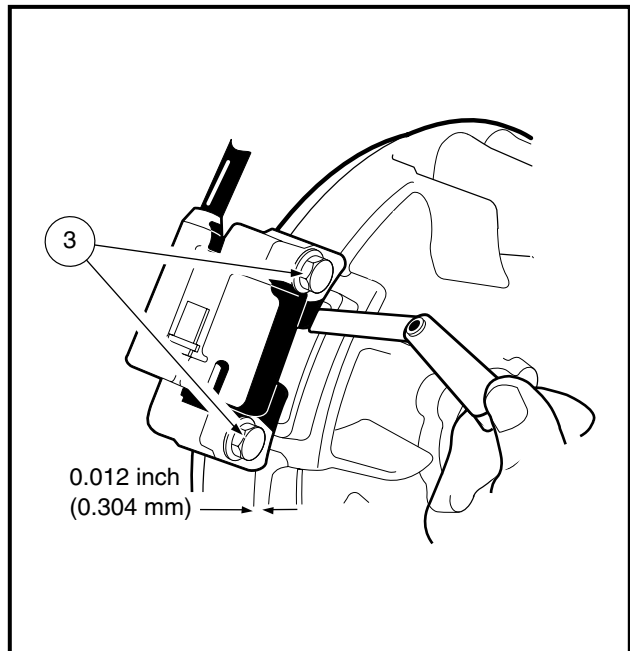

Figure 13-65 Adjust Ignition Coil Air Gap
2. While tightening the two bolts (3), use a bronze feeler gauge to adjust the ignition coil air gap to 0.012 inch (0.304 mm) (**Figure 13-65, Page 13-32**).